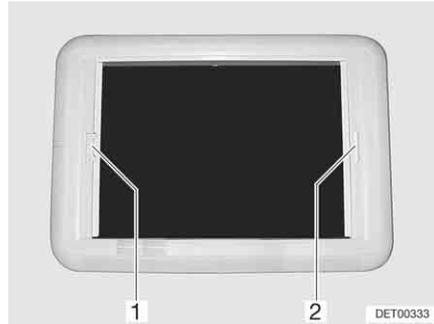

Fig. 75 Heki skylight, blind lock
- Pull blind at the handle (Fig. 75,2) to the opposite handle of the insect screen (Fig. 75,1) and allow to engage.
- With your other hand, push the unlocking bar on the handle of the insect screen (Fig. 75,1) towards the handle. The lock is released.
- Pull insect screen at the handle (Fig. 75,1) to the opposite handle of the blind (Fig. 75,2) and allow to engage.
- Hold the insect screen (Fig. 75,1) by the handle and push the unlocking bar towards the handle. The lock is released.